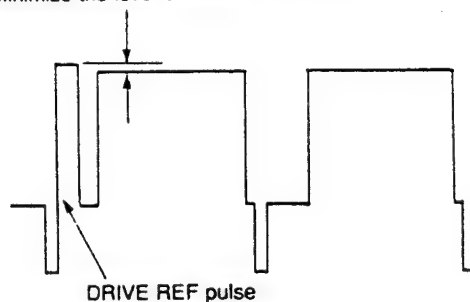

Fig. 2-14.
3. As shown in Fig. 2-14, adjust the DRIVE REF data so that the all white peak level and DRIVE REF pulse level of the signal become equal.